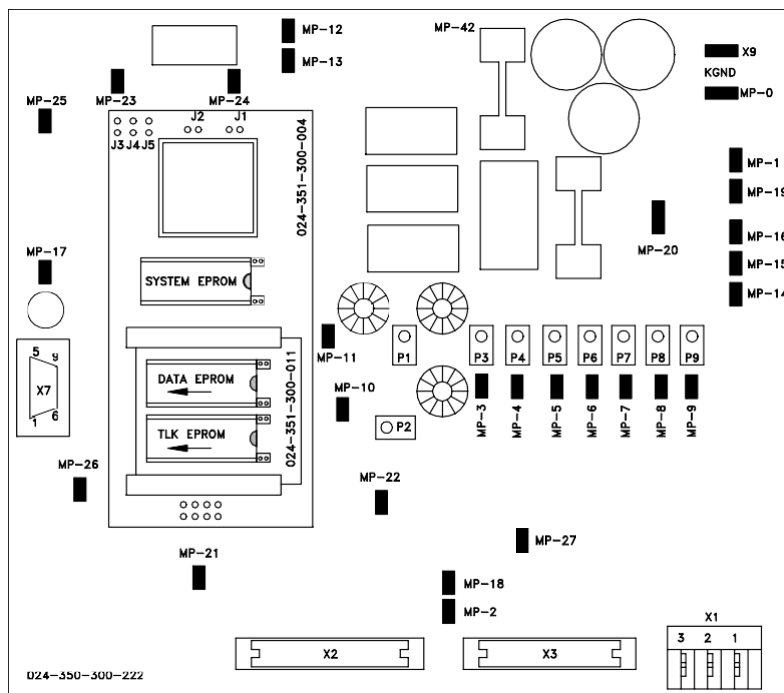

Fig. 4a
1. Refer to the drawing below for correct eprom locations. (Fig.4a)